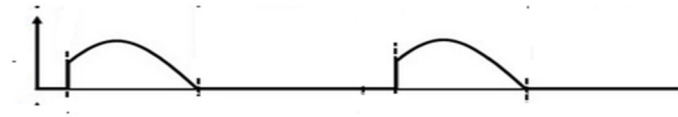

Figure 2.6: Output Waveform of Single Phase Halfwave Controlled Rectifier
- Now adjust the potentiometer by observing the output waveform, there should be a waveform at the output (not a straight line) as shown in the Figure 2.6.